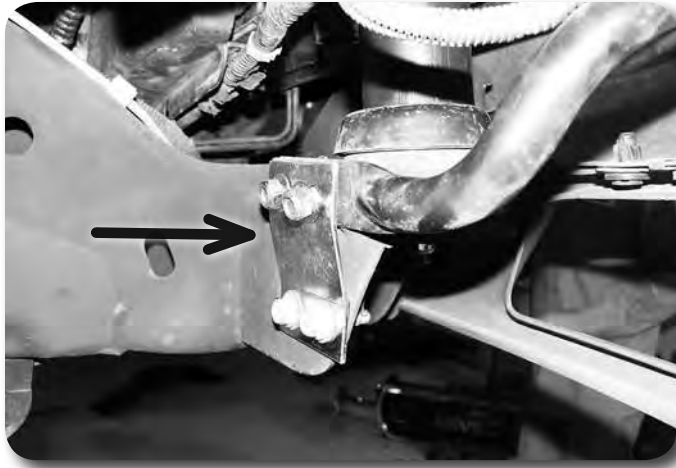

Figure 24
58. Mount the outside bumper support relocation brackets (shown) to the outside bumper support brackets with $\frac{7}{16}$ " x 1- $\frac{1}{4}$ " bolts, nuts, and $\frac{3}{8}$ " USS washers. Do not tighten at this time **Figure 24**.
59. Loosely mount the relocation brackets to the original bracket location using the stock hardware **Figure 24**.